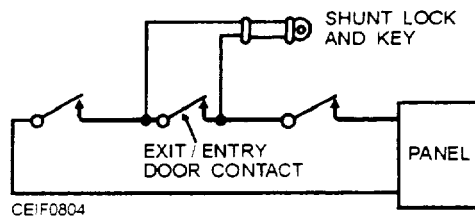

Figure 8-4.—Wire the shunt lock switch to the magnetic contacts as shown.
2. Wire the shunt lock switch to the magnetic contact terminals, as shown in figure 8-4. This arrangement traps the lock so that any attempt to pull it out to gain access to its terminals will break the positive side of the protective circuit and cause an alarm to sound.